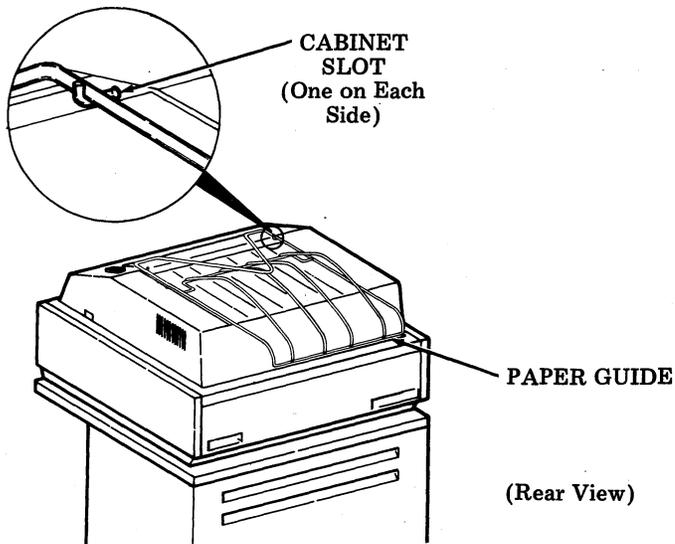

Fig. 35—Paper Guide
7.09 Install paper guide to the cabinet by slightly springing the front end of the paper guide together and inserting the ends (Fig. 35).